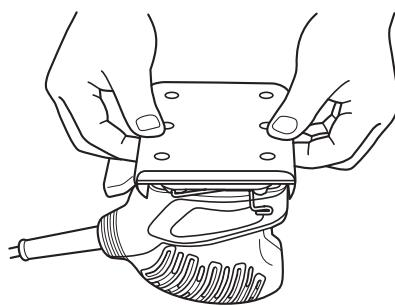

Fig. 8
(1) Bending the sanding paper:
- Position the sander with its pad side facing upward as shown in Fig. 8. Place the sanding paper on the pad so that the center of the sanding paper is aligned with the center of the pad, and bend both ends of the sanding paper at a 90° angle.